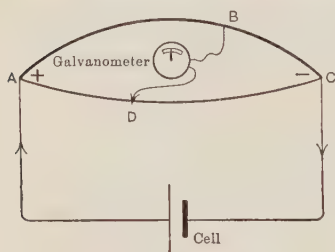

FIGURE 398. — DIVIDED CIRCUIT.
**262. Wheatstone Bridge.** — A very accurate method of measuring resistance, making use of fall of potential, was invented by Wheatstone, an English physicist, in connection with the development of the telegraph. Let us consider first a simple circuit (Figure 398), in which a cell sends current through a divided circuit  $AC$ . Between the positive end,  $A$ , and some point,  $B$ , on the upper wire there is a certain fall of potential. If a flexible wire is connected at  $B$